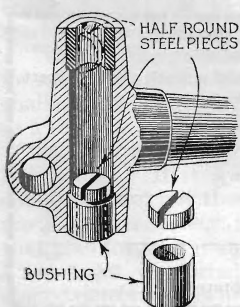

Fig. 6. To take out spindle bushings, a soft steel disk cut in the shape of a half-moon has been devised
**Y**OU can remove auto spindle body bushings in handy fashion by the use of a steel disk sawed off the end of a steel bar of the right diameter and split crosswise. The halves are dropped through the upper bushing and moved into position as shown in Fig. 6, with the end of a piece of wire. They form a cover for the hole, and the bushing can be driven out with any steel rod that will fit through the hole in the upper bushing.